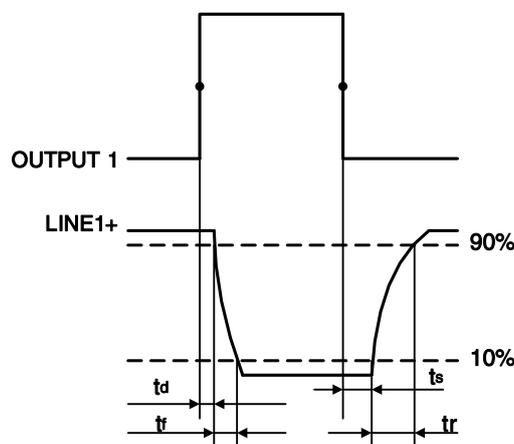

Figure 7-6 Parameter of opto-isolated output circuit
- Rising time delay = t_d+t_f : $<50\mu s$ ($0^\circ C\sim 45^\circ C$) (parameter description is shown in Figure 7-6)
- Falling time delay = t_s+t_r : $<50\mu s$ ($0^\circ C\sim 45^\circ C$) (parameter description is shown in Figure 7-6)
- Rising time delay = t_f+t_d : $<20\mu\text{s}$ ($0^\circ\text{C}\sim 45^\circ\text{C}$) (parameter description as shown in Figure 7-6)
- Falling time delay = t_r+t_s : $<20\mu\text{s}$ ($0^\circ\text{C}\sim 45^\circ\text{C}$) (parameter description as shown in Figure 7-6)